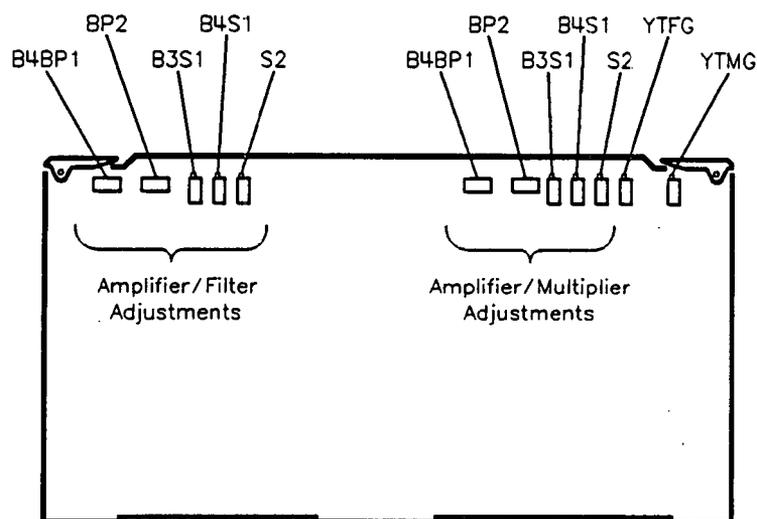

Figure 3-15. A12 Assembly Potentiometer Locations
18. Set A12R25 B3S1 fully clockwise (see Figure 3-15).
21. Adjust A12R25 B3S1 (see Figure 3-15) for maximum power at the high end. Adjust beyond the peak for a large decrease then adjust clockwise until the power is peaked.
25. See Figure 3-15 and set: